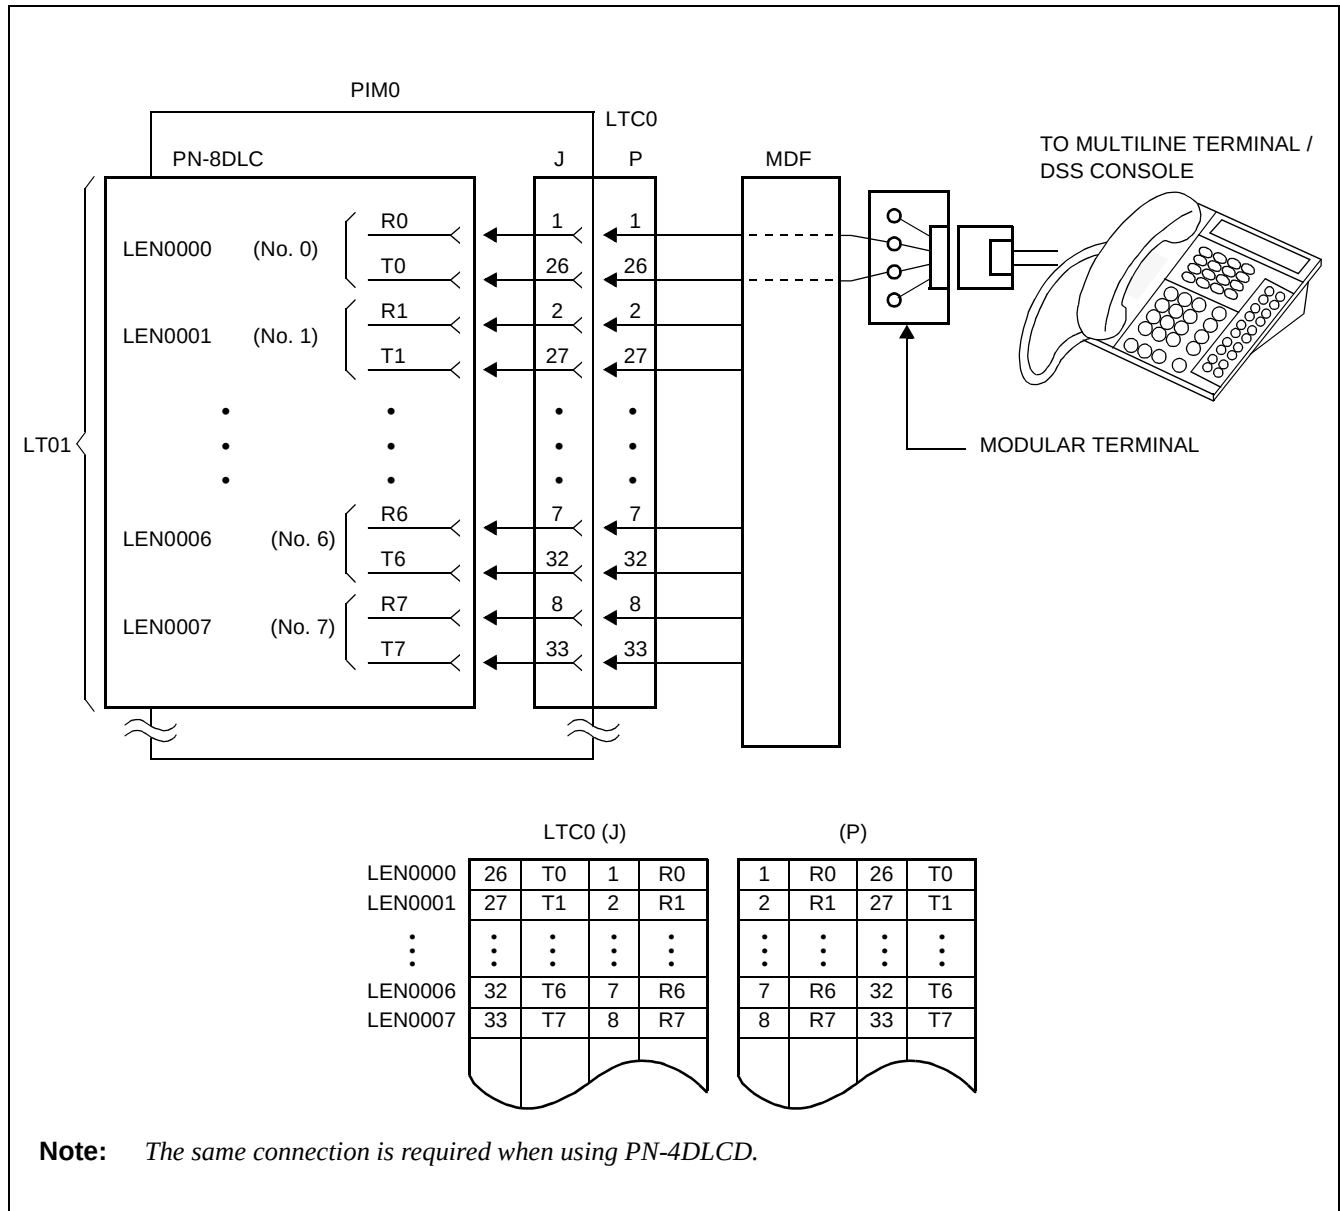

Figure 007-12 MDF Cross Connection for Multiline Terminal/DSS Console (Standard Line)
- (5) Multiline Terminal/DSS Console
- (a) Standard Line (PN-8DLC) (see Figure 007-12)